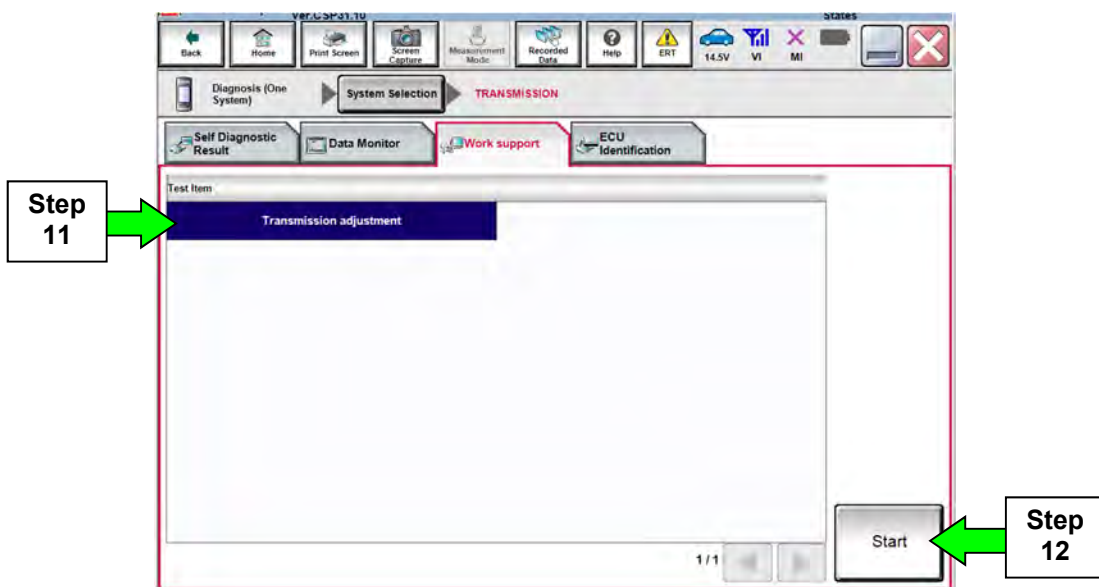

Figure 24
10. Navigate C-III plus to **Transmission > Work support** (see Figure 24).